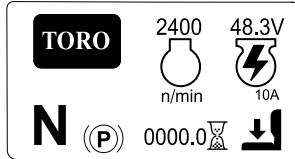

Figure 20
- Main information screen (Figure 20):** shows current machine information while the key is in the ON position.